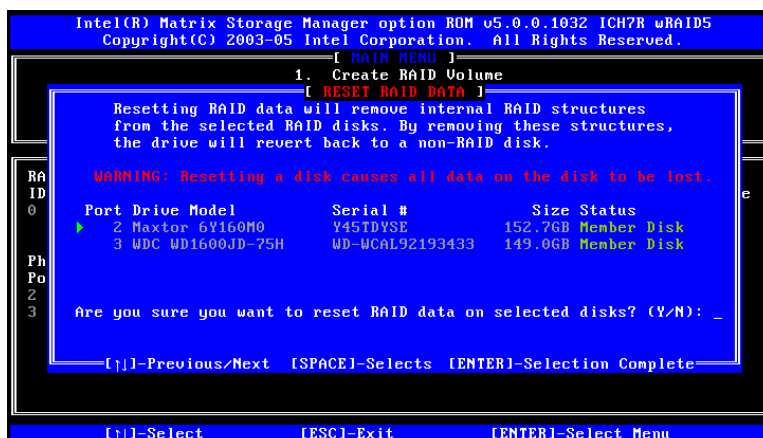

Figure F-14: Reset Disk Verification
**Step 3: Reset Disk Verification.** After reading the warning, press **Y** to reset the selected disks as non-RAID, or **N** to return to the **Reset RAID Data** menu. See Figure F-14.